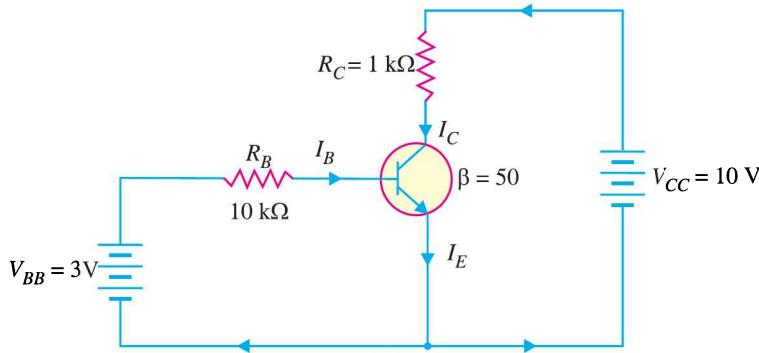

Fig. 8.54
**Example 8.33.** Determine whether or not the transistor in Fig. 8.54 is in saturation. Assume  $V_{knee} = 0.2\text{V}$ .